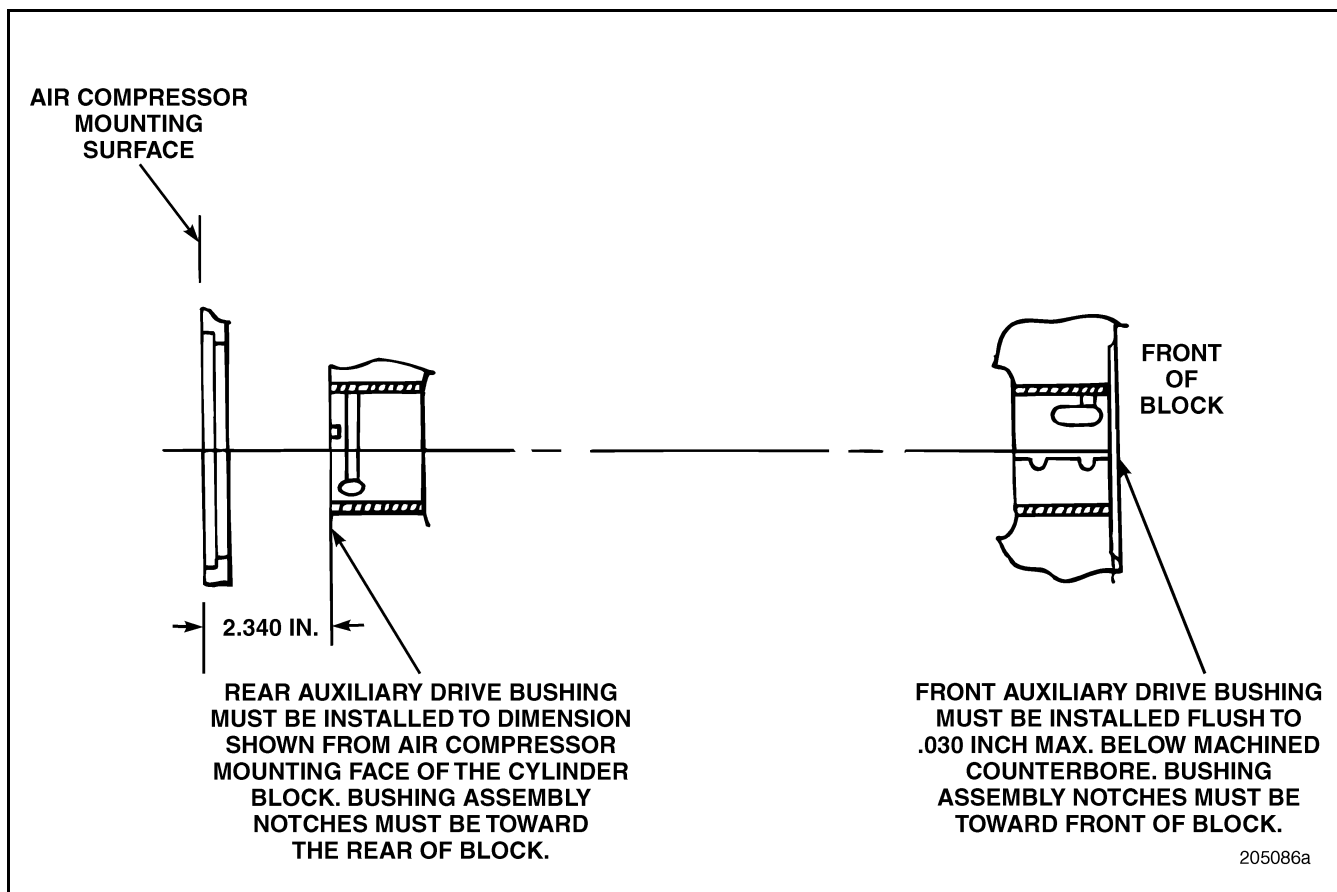

Figure 208 — Auxiliary Bushing Installation Dimensions
8. Bushings must be installed to the depths described in Figure 208.